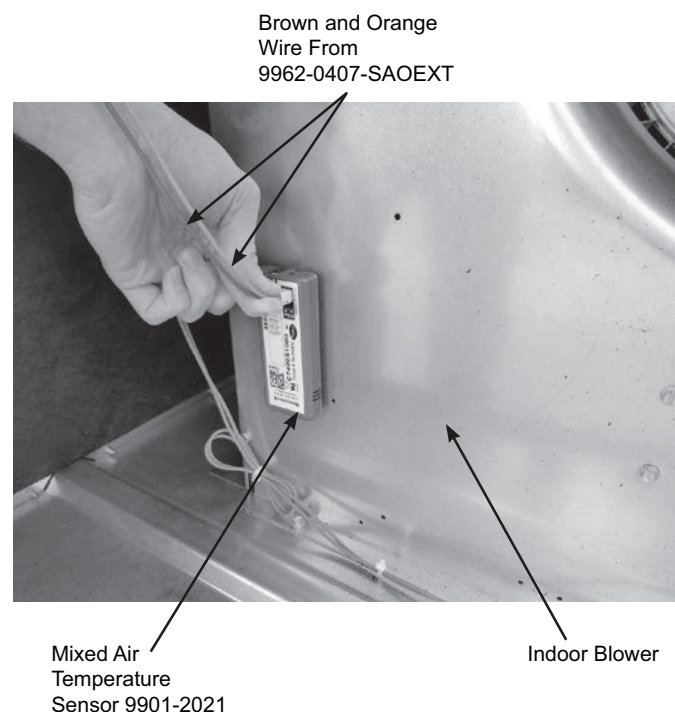

Fig. 16 — Mount and Connect Mixed Air Sensor
19. Screw the HH79ZZ007 mixed air (MAT) sensor to the left side edge of indoor blower through pre-punched holes, see Fig. 16. Confirm that the screws do not interfere with blower rotation. Connect the (2) spade terminals on the HH79ZZ007 sensor to the orange and brown wires from the 4-wire 48TMHSRSE--A20 Harness. (See Fig. 16 and 25.)
Mount the supply air temperature sensor (provided) to the lower left section of the indoor fan blower housing. (See Fig. 16.) Use the screw provided and use existing hole. Connect the violet and pink wires to the corresponding connections on the supply air temperature sensor. (See Fig. 16.)
8. Mount the provided HH79ZZ007 mixed-air temperature (MAT) sensor to the indoor blower. Confirm that the screws do not interfere with blower rotation. (See Fig. 16.) Connect the (2) spade terminals on the HH79ZZ007 sensor to orange and brown wires in the indoor blower section wire bundle.